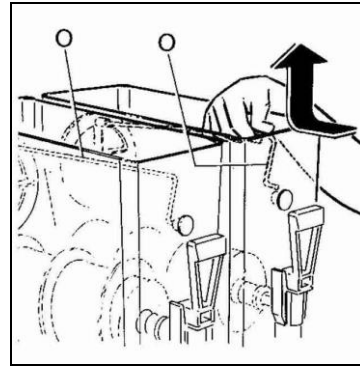

Fig. 1
The machine has to be placed on a sturdy, horizontal surface making sure it is well ventilated by leaving a gap of 20 cm around it and do not install it near heat sources (fig.1); we recommend you to maintain a room temperature between 24 and 38°C (75°F and 100°F) for the Frosty models, between 24 and 32°C (75°F and 90°F) for the Sorby ones.
- **P**ull out the upper mixing device (O) by pushing it slightly backwards, to remove it from its fixed position (see figure 1).